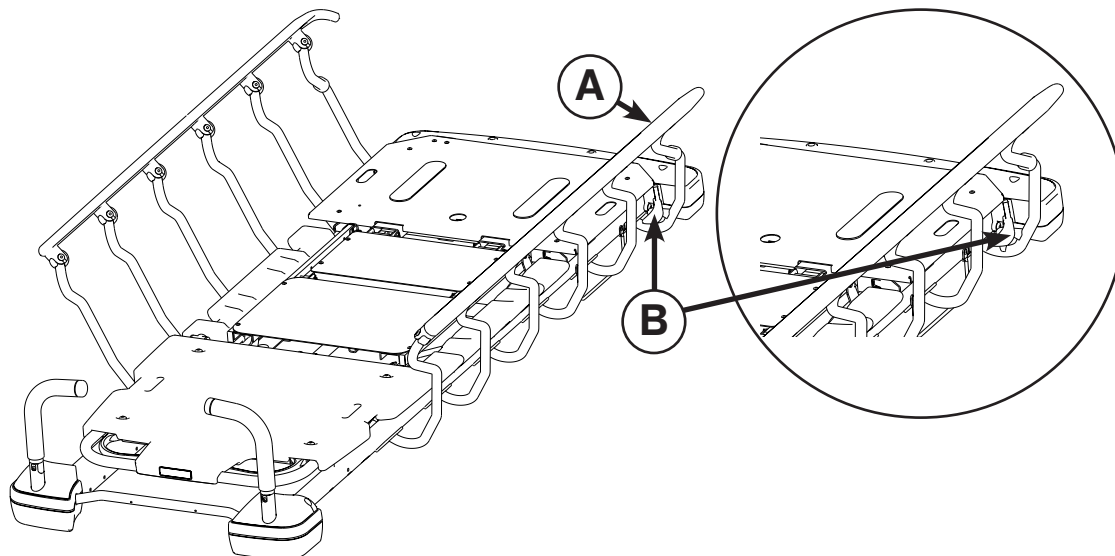

Figure 15: Siderails
To raise the siderails, pull up on the siderail (A) and raise it to the highest position until the latch (B) engages as shown in Figure 15.
To lower the siderails, pull up on the latch (B) and guide the siderail to the lowest position as shown in Figure 15. The latches (B) are colored yellow for easy identification.